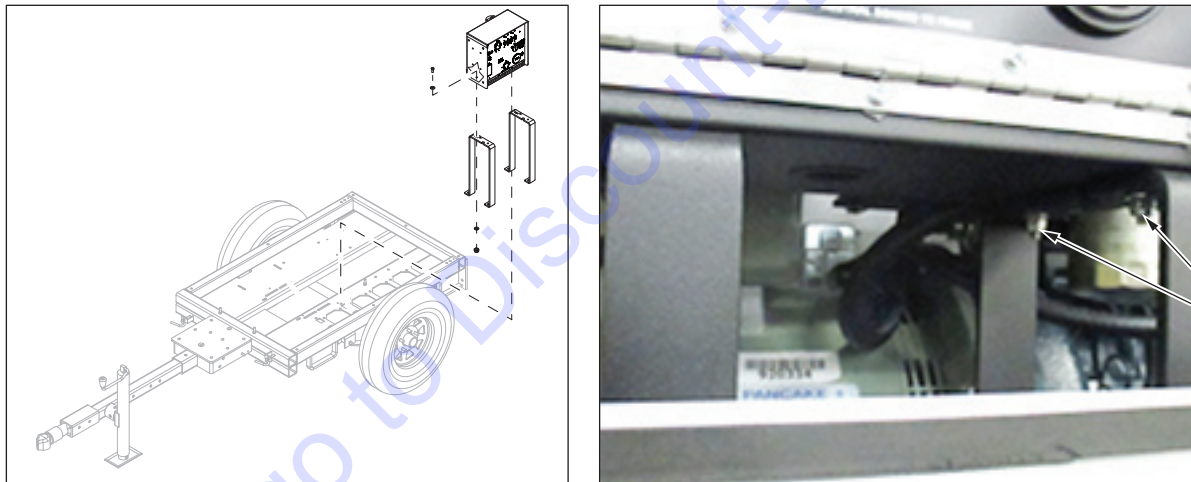

Figure 17 - Control Box to Unit: Four Hardware Locations
10. See *Figure 17*. Remove hardware securing control box to unit. Retain hardware and control box.
5. See Figure 17. Install control box in unit with hardware removed in step 10 of Remove Old Control Box.